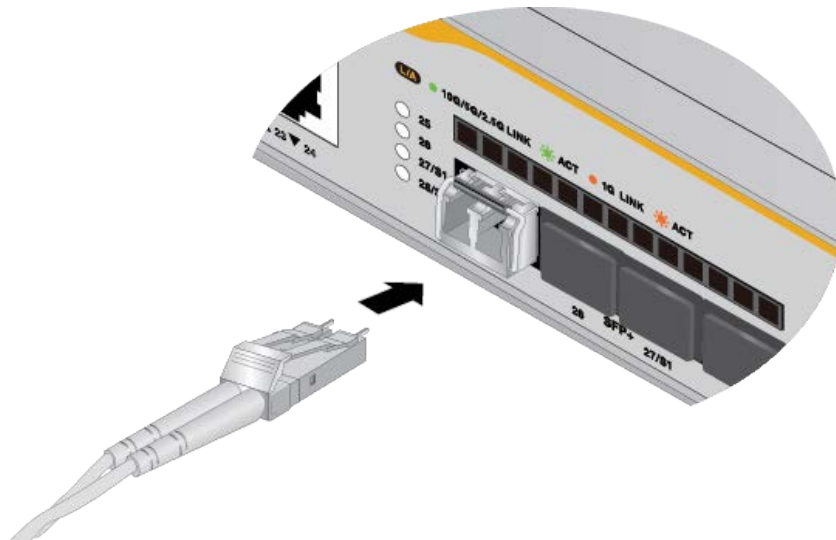

Figure 74. Connecting a Fiber Optic Cable to an SFP or SFP+ Transceiver
7. Connect the fiber optic cable to the transceiver, as shown in Figure 74. The connector on the cable should fit snugly into the port, and the tab should lock the connector into place.